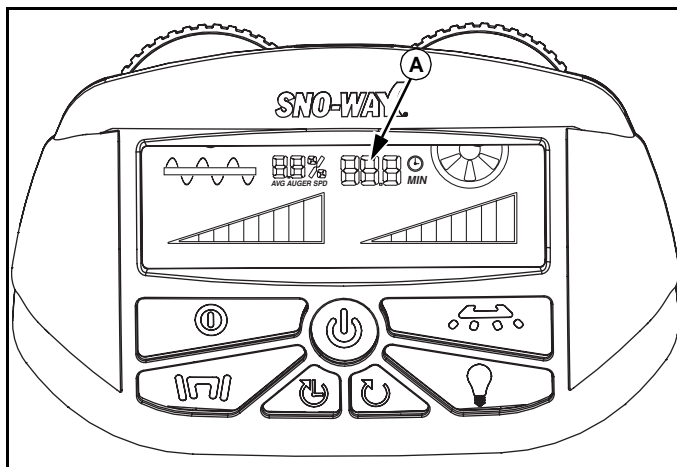

Figure 1-15
The Auger Run Time (A) measures the amount of time that the auger is running, or only when material is being dispensed. The timer can accumulate up to 999 minutes (or 16.5 hours) and then it will reset automatically. (See Figure 1-15.)